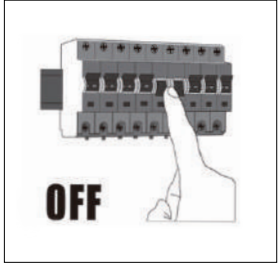

Figure 1
Step 1: Turn off the electrical (Figure 1)